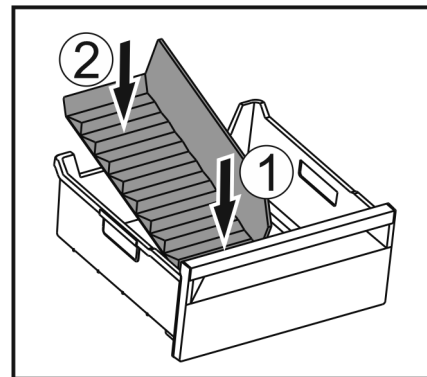

Fig. 135
- ▶ Insert the front part of the ice compartment divider. Fig. 135 (1)
- ▶ Lower the rear part of the ice compartment divider to the drawer bottom. Fig. 135 (2)